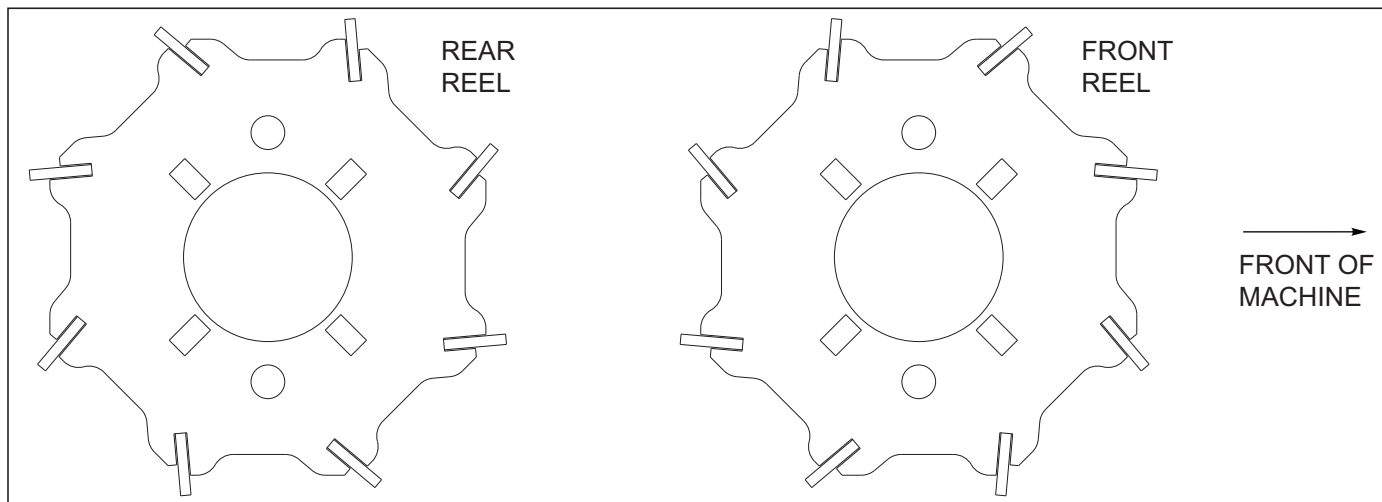

Figure 4-23: 3RS DBL Flat Reel Installation
- The reels operate independently of the 3 row spike with two spring loaded arms per reel to maintain consistent down pressure. The blades on flat bar reels are angled for more aggressive action. Install the reels as shown See Figure 4-23. Front reels are installed as shown, rear reels are reversed for more soil firming.